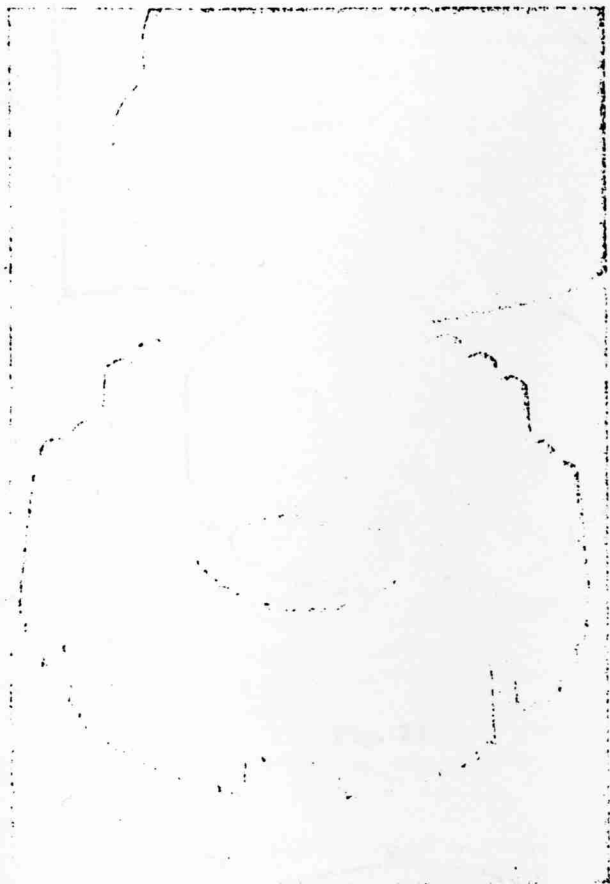

Fig. 23
- a) Place one compression spring (211) with some grease into each of the bores of the synchronizer (209,224)(Fig. 23).